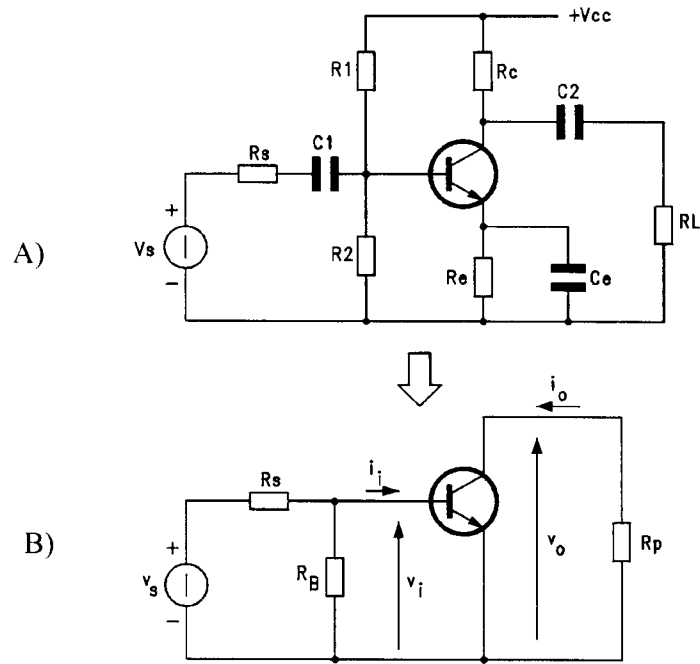

fig.B20.7
Figure B20.7 shows the normal common emitter amplifier.  $R_1$ ,  $R_2$  and  $R_e$  constitute the bias network.  $v_s$  and  $R_s$  represent the generator and its internal resistance.
- once RV2, R2 and R4 are known, calculate the equivalent resistance  $R_B$  of the base bias (refer to Fig B20.7)